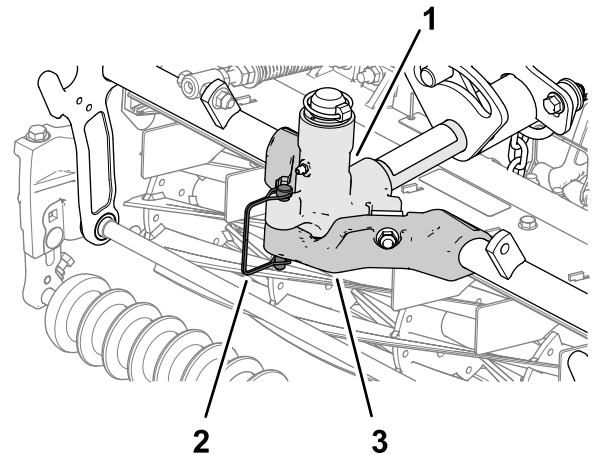

Figure 43
1. Secure the carrier frame of the cutting unit to the pivot yoke with the snapper pin as shown in Figure 43.